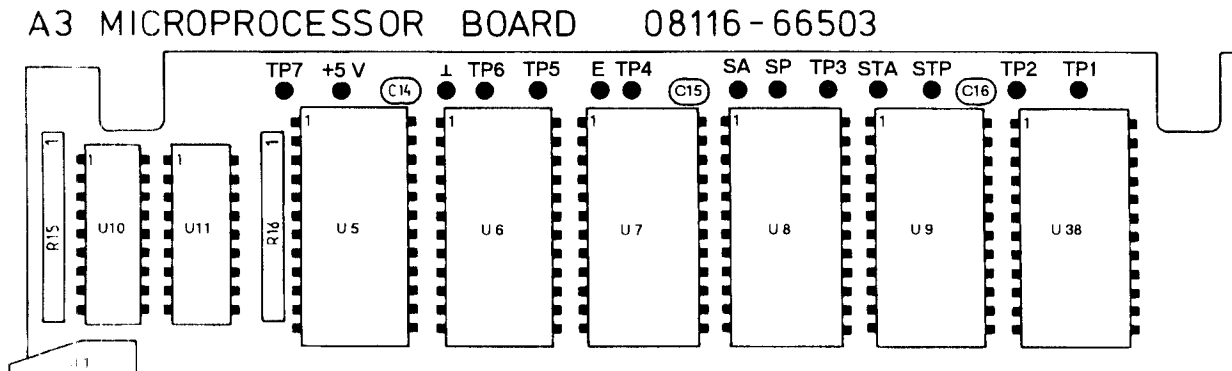

Figure B-3. 08116-66503: U10, U11 layout
2. Figure B-3 shows the location of the RAMs U10 and U11 on the microprocessor board 08116-65503. Modify Figure 10.7-9 accordingly.